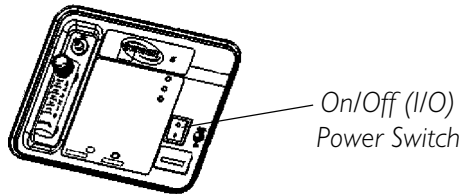

FIGURE 5 - POWER SWITCH
1. Press power switch to the **ON** position. The power light (I/O), located on the control panel, will illuminate a **GREEN** light. The alarm will "beep" three (3) times indicating that the system is functioning properly (FIGURE 5).